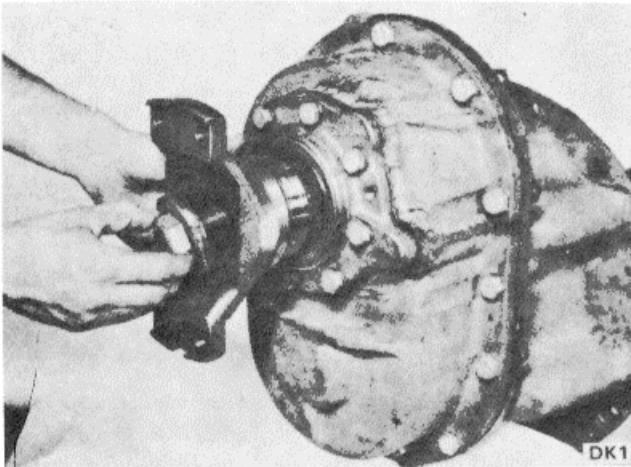

Figure 9C-33. Removing Input Flange
2. Remove oil seal retainer bolts, Figure 9C-34. Install two bolts in threaded holes and use as jack screws to remove retainer.